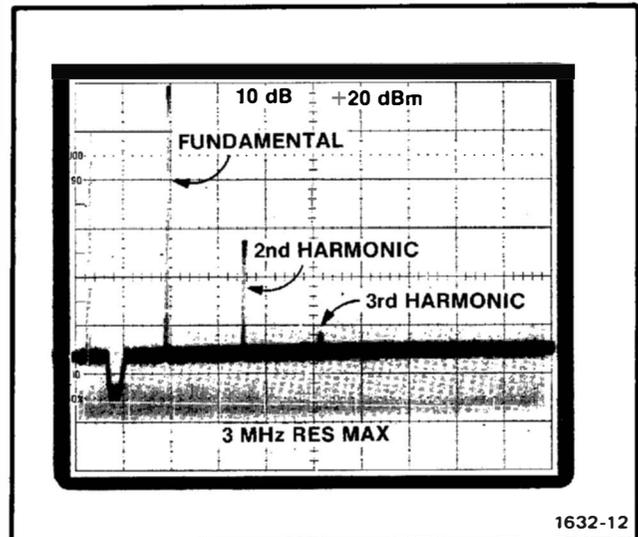

Fig. 3-5. Display of 100 MHz signal with fundamental properly positioned.
f. Position the fundamental vertically to the top graticule line with the spectrum analyzer position control. See Fig. 3-5 for reference.
n. Check—slowly rotate the SG 504 COARSE control from 245 MHz to 550 MHz and check that the vertical distance (suppression) between the top of the second harmonic and fundamental is at least 2.7 divisions (27 dB); the tops of the third and remaining harmonics are separated at least 4.2 divisions (42 dB). See Fig. 3-5 for reference.
e. Position the fundamental vertically to the top graticule line with the spectrum analyzer position control. See Fig. 3-5 for reference.
h. Check—slowly rotate the SG 504 COARSE control from 495 MHz to 1050 MHz and check that the vertical distance (suppression) between the top of the second harmonic and fundamental display is at least 2.7 divisions (27 dB); the tops of the third and remaining harmonics are separated at least 4.2 divisions (42 dB). See Fig. 3-5 for reference.
c. Push in the SG 504 LOW RANGE pushbutton. Check that the fundamental is vertically positioned at the top of the graticule line. See Fig. 3-5 for reference.
d. Check—slowly rotate the SG 504 COARSE control from 245 MHz to 550 MHz and check that the vertical distance (suppression) between the top of the second harmonic and fundamental is at least 2.7 divisions (27 dB); the tops of the third and remaining harmonics are separated at least 4.0 divisions (40 dB). See Fig. 3-5 for reference.
e. Check—that the vertical distance (suppression) between the top of the second harmonic and fundamental is at least 3.3 divisions (33 dB); the tops of the third and remaining harmonics are separated at least 4.2 divisions (42 dB). See Fig. 3-5 for reference.
m. Check—that the vertical distance (suppression) between the top of the second harmonic and fundamental is at least 3.3 divisions (33 dB); the tops of the third and remaining harmonics are separated at least 4.2 divisions (42 dB). See Fig. 3-5 for reference.